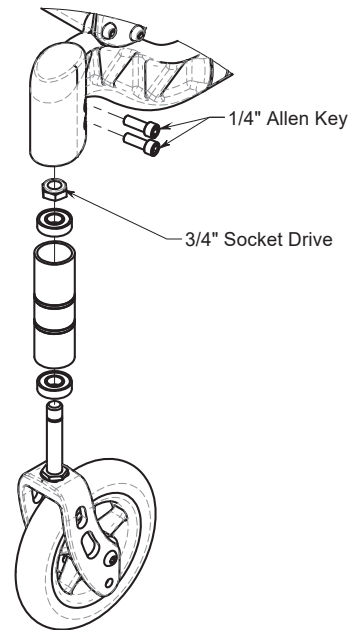

Figure 14.29: Installing/Replace Caster Forks
1. Press and hold the release button on the anti-tipper tube. (See Figure 14.29)